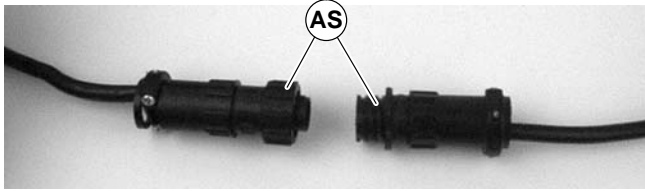

Figure 28
3. For DC variable speed motor, unplug motor cord at disconnect (AS of Figure 28).